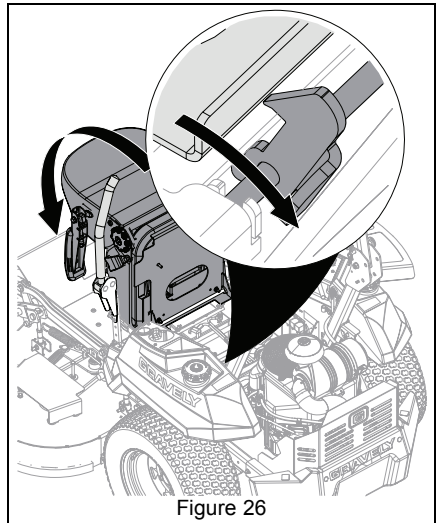

Figure 26
4. Disengage seat latch from seat plate and rotate seat forward. See Figure 26.